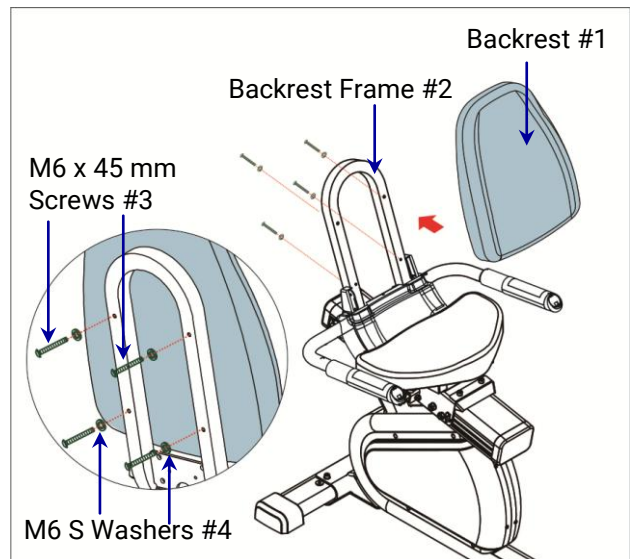

Fig 2.5-14
Attach the **Backrest #1** to the **Backrest Frame #2** using (4) **M6 x 45 mm Screws #3** and (4) **M6 S Washers #4** with the provided 4mm Allen Wrench. (Fig 2.5-14)